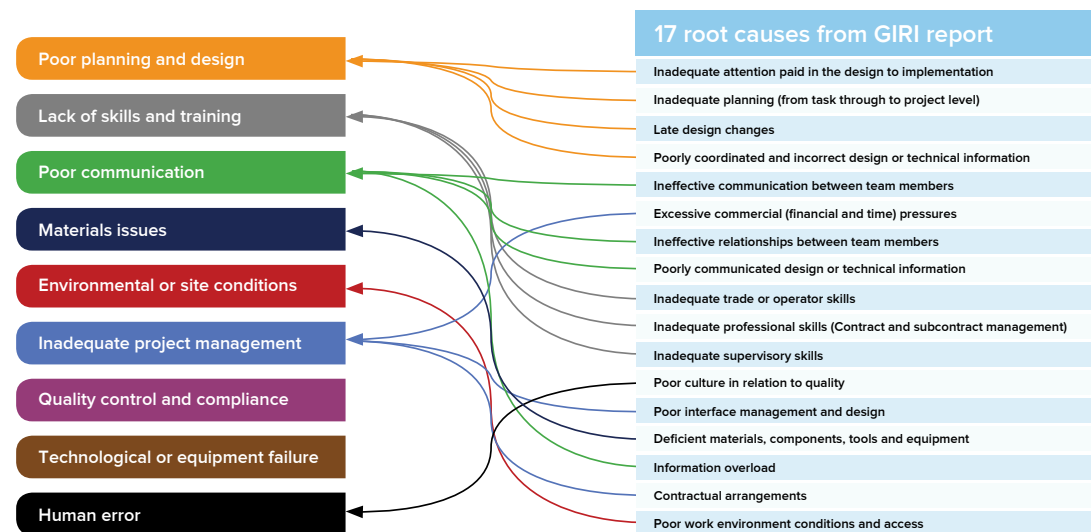

Figure 1 – Seventeen root causes of error consolidated into nine categories
Work by HS2, which we reproduced in our report on AI and Error Reduction in July 2025, consolidated these into nine categories of error, which we reproduce in Figure 1 below.
- **Artificial Intelligence and Error Reduction (2025)**, which showed the potential for the use of AI in construction. It identified four of the areas set out in Figure 1 – poor planning and design; inadequate project management; quality control and compliance; and human error – as having the highest potential for error reduction through the use of AI.